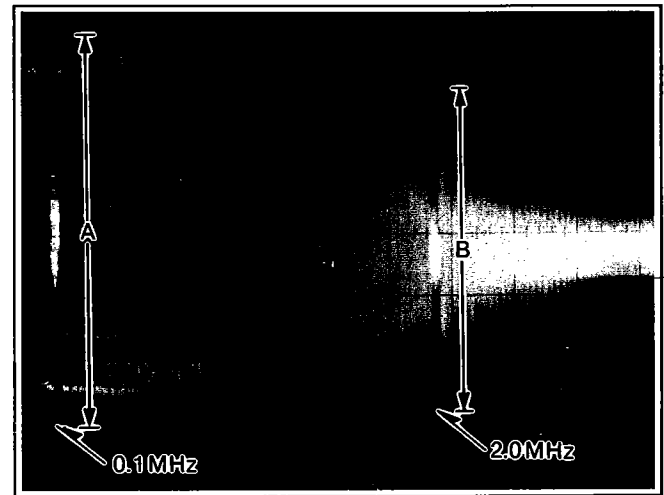

Figure E15 SLP MODE
6. Adjust VR3304 until the B level (2MHz) is -3 ± 4 dB (45 to 110 percent) of the A level (0.1MHz) as shown in Figure E15.